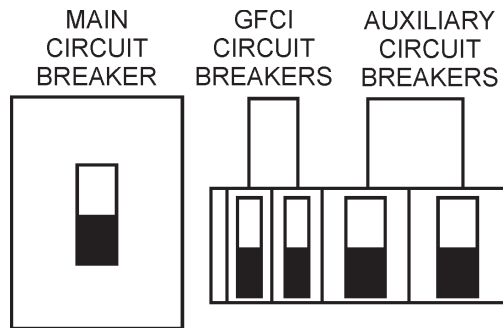

Figure 39. Main, Aux. and GFCI Circuit Breakers (OFF)
1. Place the **main**, **G.F.C.I.**, and **aux.** circuit breakers (Figure 39) in the **OFF** position prior to starting the engine.